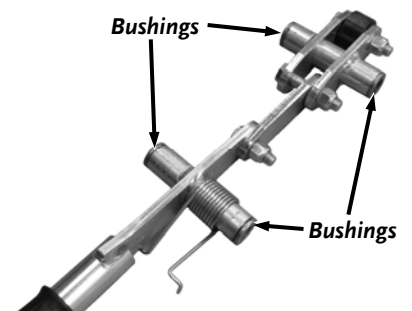

Figure 27
- Replace the used Bushings with new ones (**Figure 27**). You may need the punch and Hammer for removal and the Hammer to install some of the Bushings.